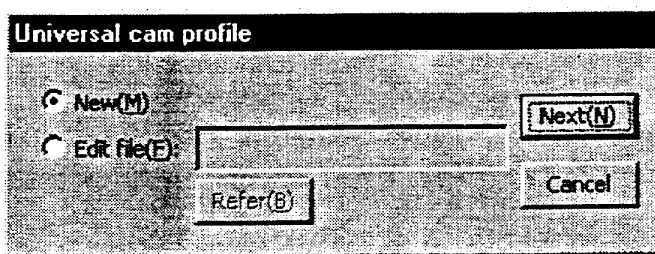

Figure 7.49 "Universal cam profile" dialog box
Click "*Universal cam (P)*" in the "Cam Profile Menu" dialog box to display the Universal cam profile dialog box (see Figure 7.49).
- 1) Select *"Edit file"* in the "Universal cam profile" dialog box shown in Figure 7.49.
- 2) Enter the file name of a universal cam profile (extension .unv) in the file name input text field. If you are not sure about the accurate file path and name, click *"Browse (R)."*
- 3) Select a file and click *"Open (O)."*
- 4) Click *"Next (N)"* to return to the "Universal cam profile" dialog box.